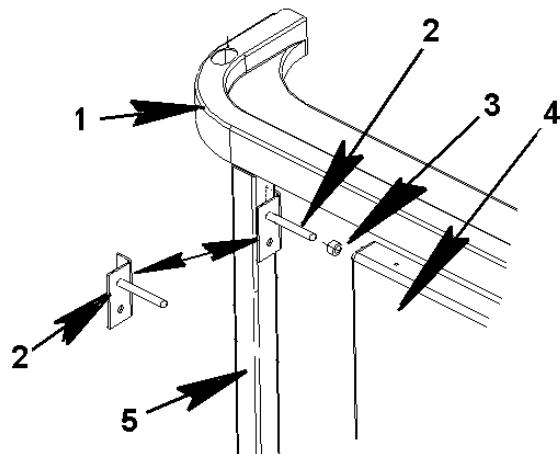

Figure 242 Rear Grille Hinge Mounting Assembly
10. Remove the bracket guide from the slot in the structure (Fig. 242, Item 2).
11. Slide the pin assemblies from the grill panel, remove the bushing (Fig. 242, Item 3) when removing the slide pin.